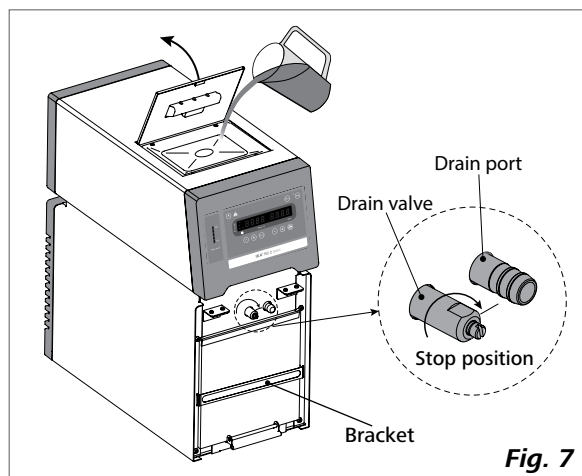

Fig. 7
- Check and make sure that the drain valve is closed (the stop position in clockwise direction, see Fig. 7).